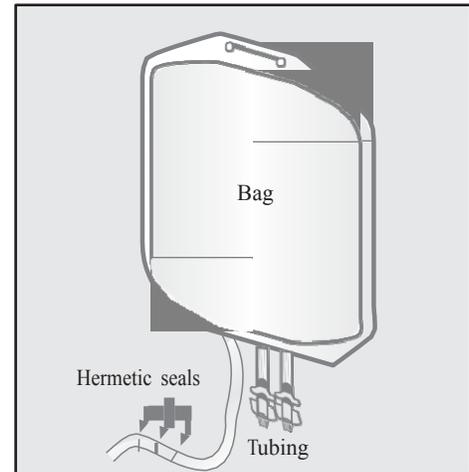

Fig 4 1-6: Sealing a bag. Use heat sealer to make the seal in the tubing. Sever at center seal.
6. Heat seal the tubing and separate, leaving at least 15 cm of tubing on the Cell Preparation Bag for further connections (see Fig 4 1-6) Retain the original leukapheresis bag until cell separation and final cell analysis have been completed